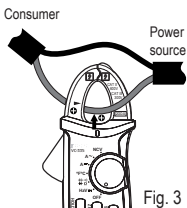

Fig. 3
- Perform a zero adjustment without the conductor and with the clamp closed. To do so, briefly push the **ZERO** key (9). A beep sounds and the LCD shows **< ZERO >** (D) to confirm the zero adjustment. Each time you push the **ZERO** key, the display is zeroed. Push and hold the **ZERO** key for approx. 2 seconds to deactivate this function. The display no longer shows the **< ZERO >** symbol. The device is now in normal measurement mode without zero adjustment.
- Heed the correct polarity of the clamp for direct current measurement. The polarity symbols **+** / **-** are visible on the front and back of the clamp. When the connection is correct, the cable leads from the current source (+) through the front of the clamp to the load (fig. 3).
- Press the release lever (11) to open the clamp. Clamp the individual conductor to be measured and reclose the clamp. Position the conductor in the middle of the two triangular position symbols on the clamp.